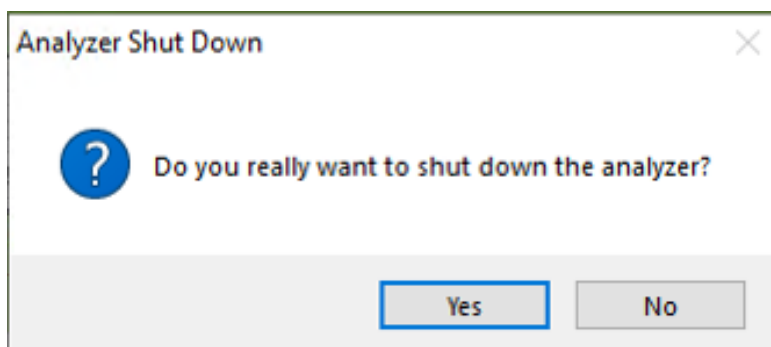

Figure 51: Shutdown Confirmation Pop-Up Dialog
2. A window will pop-up (Figure 51) prompting the user to confirm the shutdown. Once confirmed, the analyzer software and hardware will turn off.